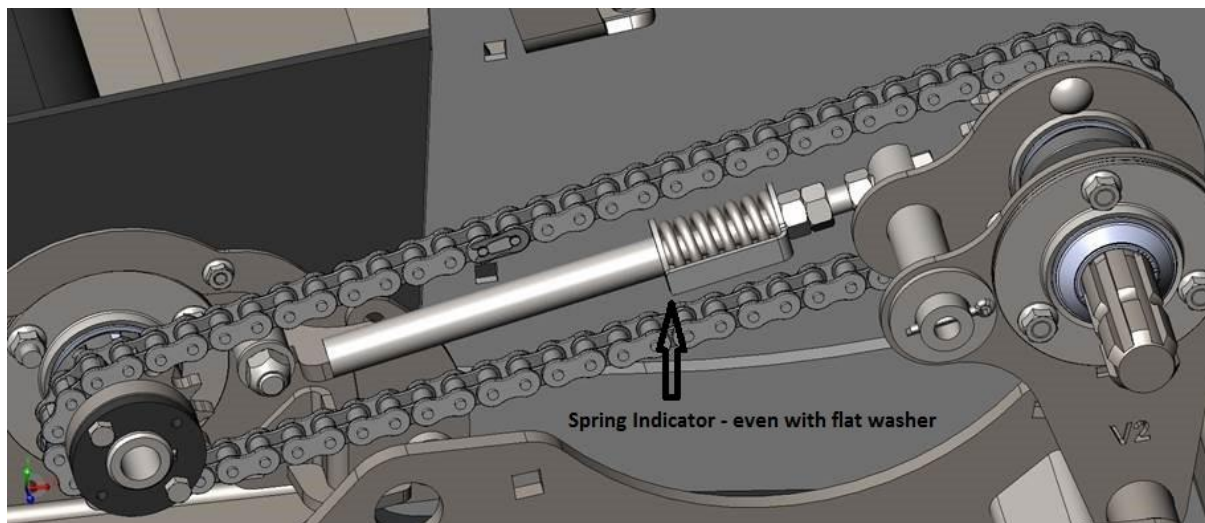

Figure 13
- Make certain the top jam nut is tight against the spring tension pivot rod. Adjust the lower two jam nuts until the spring gauge is aligned with the washer at the end on the spring. Figure 13